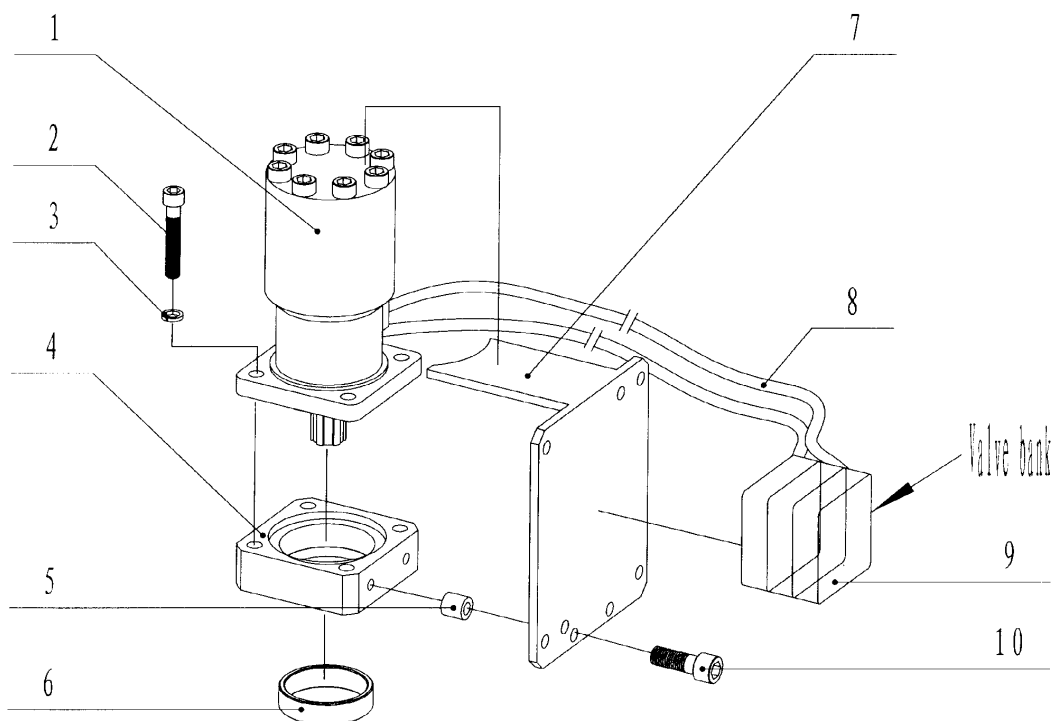

Fig 9
9.2.7 Hydraulic motor and its control valve and fittings (Fig 9, Table 9)